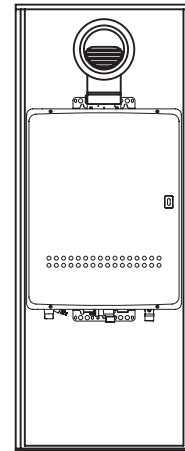

Figure 4: Venting installed.
- Slide the supplied 90° elbow over the flue of the heater and push down until it “clicks”. Slide the terminator cap into the open end of the elbow with the louvers facing down as shown in Figure 4. Push the cap in until it “clicks”.